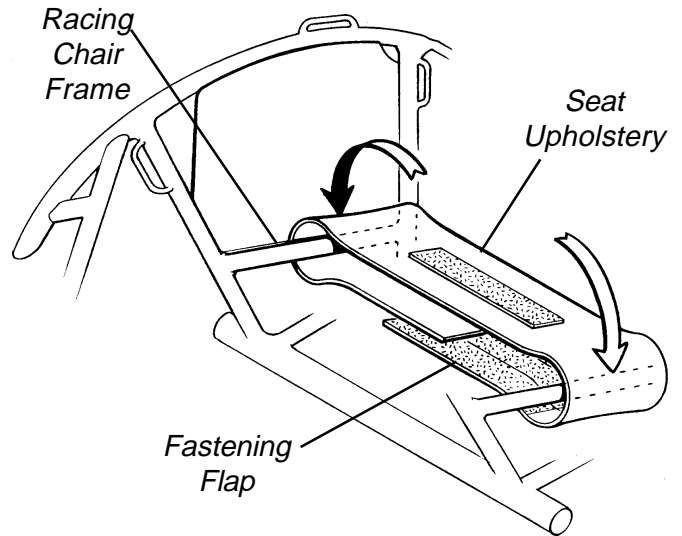

FIGURE 3 - REPLACING SEAT SLING UPHOLSTERY
1. Unlatch the three (3) fastening flaps that secure the leg cushion to the racing chair frame.
5. Feed the top two (2) fastening flaps of the new leg cushion w/foot pouch through the slots on the racing chair frame.
**REPLACING SEAT SLING UPHOLSTERY (FIGURE 3)**
3. Unlatch the top two (2) fastening flaps that secure the leg cushion to the racing chair frame.